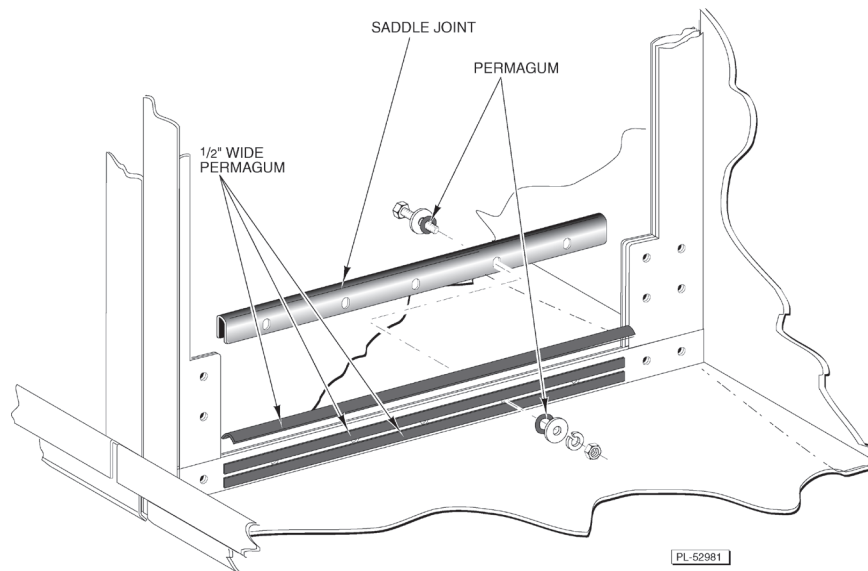

Fig. 13
4. Put Permagum on the outside faces of the tank flanges: one strip horizontally at the bottom on both sides, one strip horizontally over the holes on both sides and one strip on top where the two flanges butt together (Fig. 13).